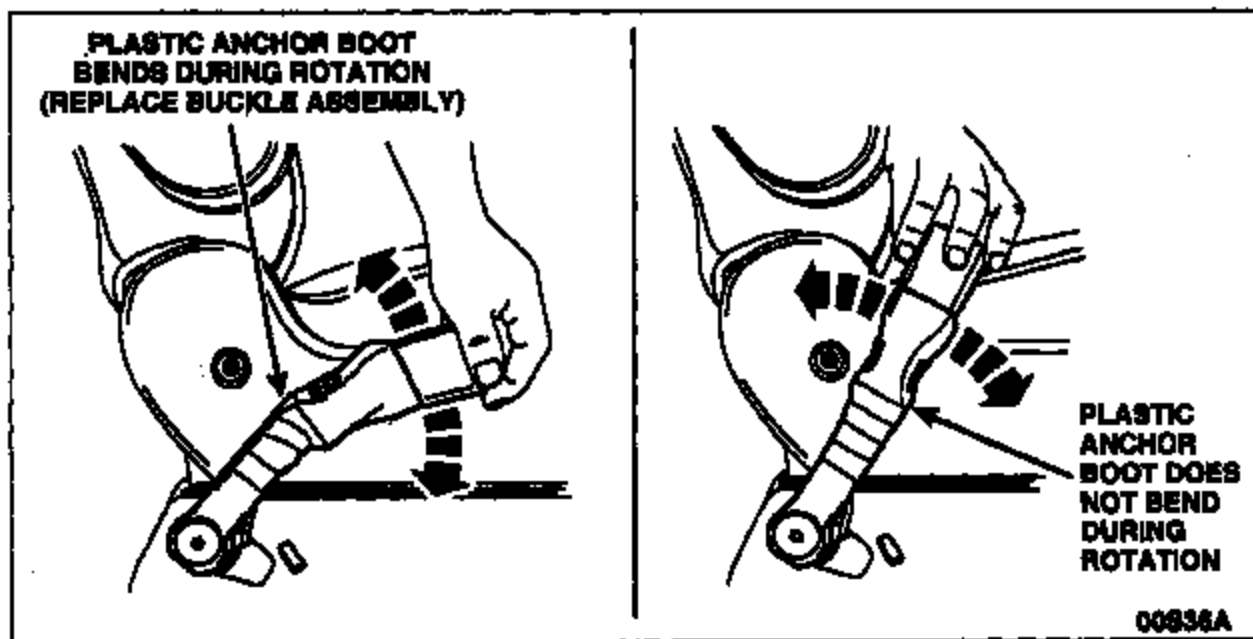

FIGURE 1
1. Grasp the end of the seat belt buckle and rotate the buckle assembly forward and backward as shown in the illustration. The buckle assembly should rotate freely and the plastic anchor boot should remain straight. See Figure 1.